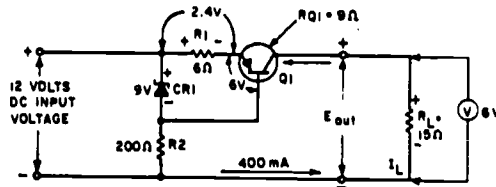

Fig 4-42. Current regulator (with circuit values).
The purpose of a current regulator is to provide a constant current regardless of changes in the input voltage or load current. The schematic shown in figure 4-42 is that of a circuit designed to provide a constant current of 400 milliamperes. Voltmeters are shown in the schematic to emphasize the voltage drops across specific components. These voltages will help you understand how the current regulator operates. The voltage drop across the base-emitter junction of Q1 is 0.6 volt. This voltage is the difference between the Zener voltage and the voltage drop across R1. The 0.6-volt forward bias of Q1 permits proper operation of the transistor. The output voltage across R_L is 6 volts as shown by the voltmeter. With a regulated current output of 400 milliamperes, the transistor resistance (R_{Q1}) is 9 ohms. This can be proved by using Ohm's law and the values shown on the schematic. In this case, current (I) is equal to the voltage drop (E) divided by the resistance (R). Therefore, 12 volts divided by 30 ohms equals 0.4 ampere, or 400 milliamperes.